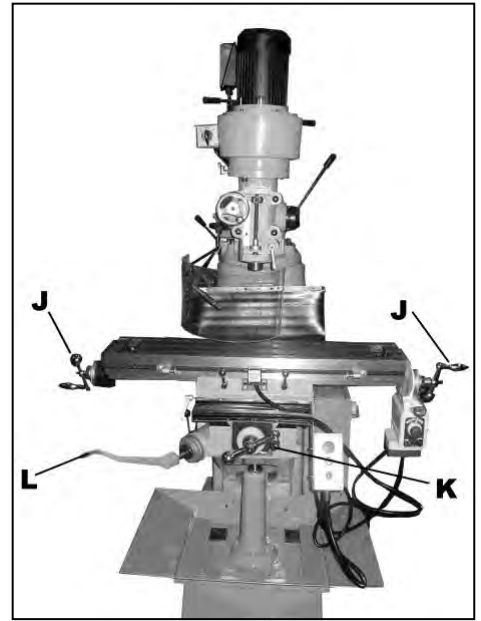

Fig.6
- J. **Longitudinal Movement** (J, Fig. 6)-handles located on opposite ends of the table. This controls the X-axis.
- K. **Cross Movement** (K, Fig. 6)-handle located directly in front of the machine. This controls the Y axis.
- L. **Knee Handle** (L, Fig. 6)-this raises the table up and down.